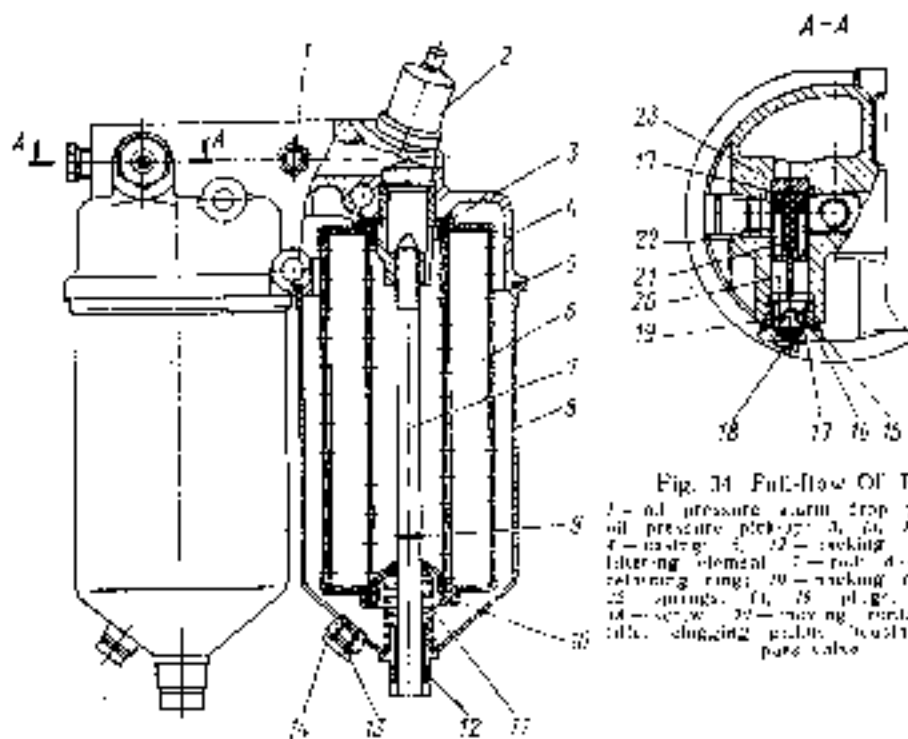

Fig. 34 Full-flow Of Filter
Full-flow oil filter (Fig. 34) is secured to the cylinder block right-hand wall; it comprises two replaceable filtering elements. By-pass valve 23 is built in the filter casing, having a contact-type pickup. The valve opens when the pressure before and after the filtering elements rises to 250—300 kPa (2.5—3.0 kgf/cm²). If the filter resistance increases (due to clogging of filtering elements, solidification of oil at low temperatures), oil is supplied to the main line of the lubrication system through the by-pass valve, escaping filtering element 6. When by-pass valve 23 operates, the contacts close in the warning indicator and lamp (indicator) 5 (see Fig. 15) glows on the instrument board inside the cab. This lamp may glow only when the engine is started and the crankshaft rotates at minimum rotational speed.
The filter casing houses oil pressure pickup 2 (see Fig. 34) and oil pressure alarm drop pickup 1 in the main line. If the oil pressure drops lower than 70 kPa (0.7 kgf/cm²), lamp (indicator) 2 (see Fig. 14) glows on the instrument board.
- screw out drain plugs 14 (see Fig. 34) on heads 8 and drain the oil;